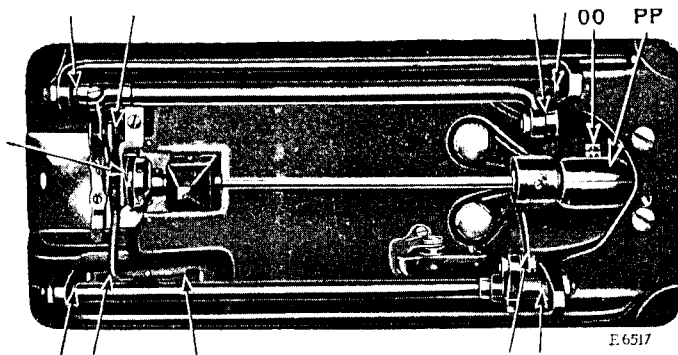

FIG. 16. BASE OF MACHINE, SHOWING OILING POINTS
Turn the machine back on its hinges and apply oil at the places as shown by arrows in Fig. 16.
Occasionally remove the knurled thumb screw (OO, Fig. 16) and fill the gear case (PP, Fig. 16) with the Singer High Speed Lubricant, a grease which is especially prepared for this purpose, then replace the thumb screw (OO).